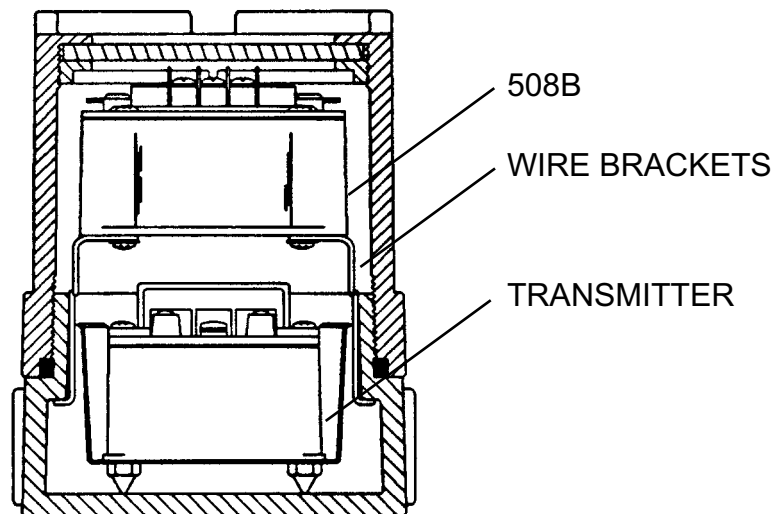

Figure 3-6. External Explosion-Proof Housing Mounting (Option EPW2)
2. Mount 508B above transmitter as shown in Figure 3-6.